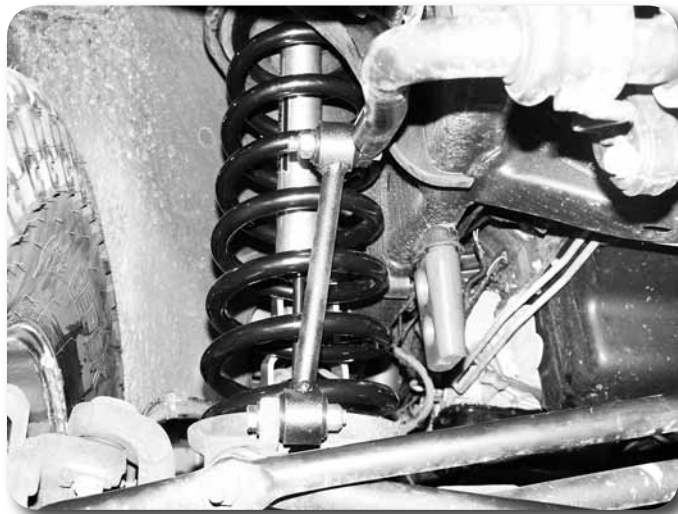

Figure 1
5. Attach the new links to the sway bar and axle. The large ID sleeve goes to the sway bar and is attached with a 9/16"x 3" bolt, nut and washers. The opposite end mounts to the axle with a 1/2" x 3" bolt, nut and USS washers. Torque the 9/16" hardware to 90 ft-lbs and the 1/2" hardware to 65 ft-lbs. **Figure 1**